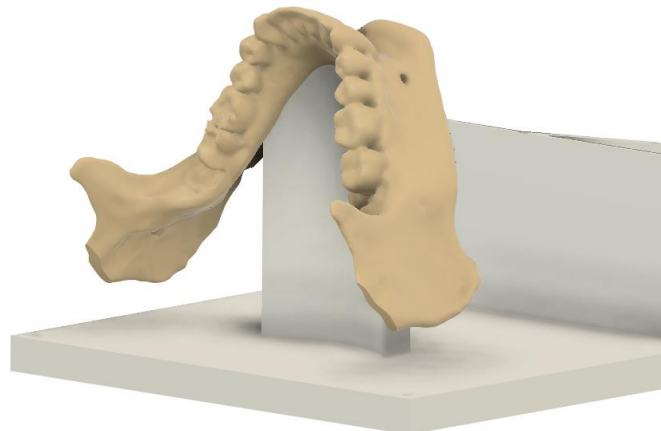

Figure 1. Mandible position on mount.
- 4.1.4. Use the Move tool to position the mandible how it would be when mounted. See Figure 1 for reference.